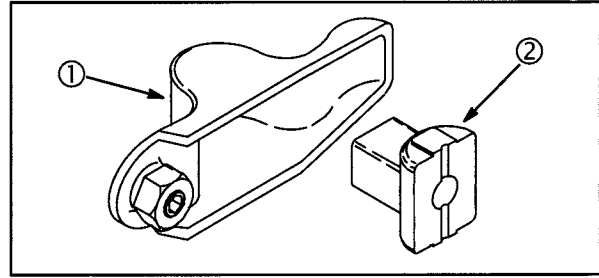

Fig. 2
Style 3: (Current) Engines manufactured after date code 960331xx are equipped with a redesigned cylinder head, and stamped steel rocker arms (1), Fig. 2, with a separate rocker arm support (2) for